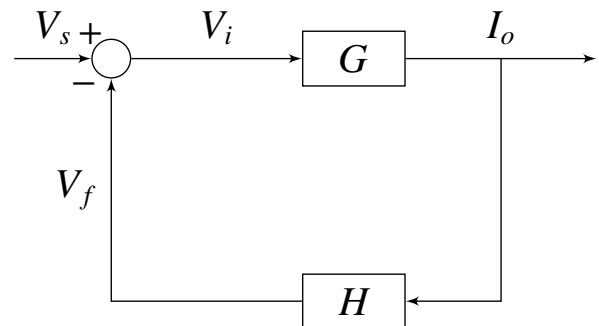

Fig. 1.0.7: block diagram
**Solution:** figure in fig.1.0.7 represents our control system